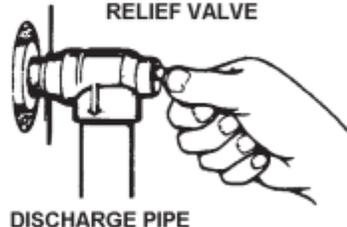

Figure 16.
When checking the temperature-pressure relief valve operation, make sure that (1) no one is in front of or around the outlet of the temperature-pressure relief valve discharge line, and (2) that the water discharge will not cause any property damage, as the water may be extremely hot, see Figure 16.